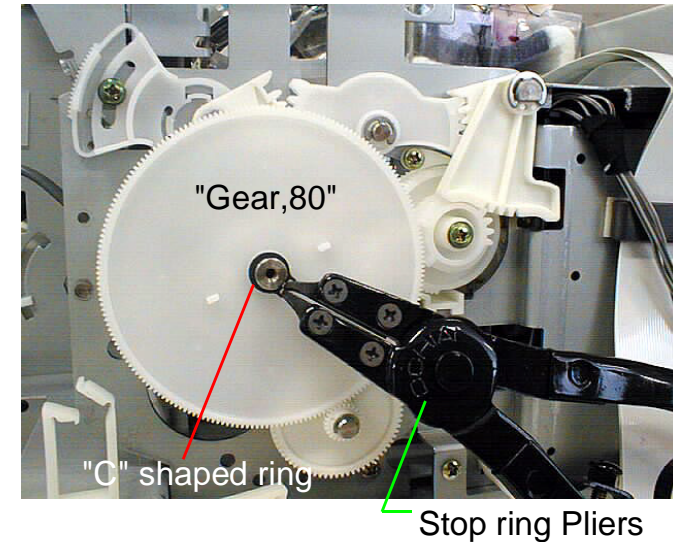

Figure 4-32. Releasing Gear
3. Remove "C" shaped ring securing "Gear,80" by a pair of tweezers or stop ring pliers. (Refer to Figure4-32)